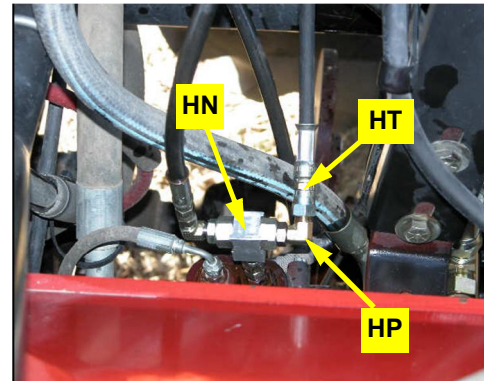

Figure 6c: Load sense hose connected at load sense shuttle
- c. Connect the load sense hose **HT** to the open end of the load sense shuttle **HN** installed at step 5c (Figure 6c).